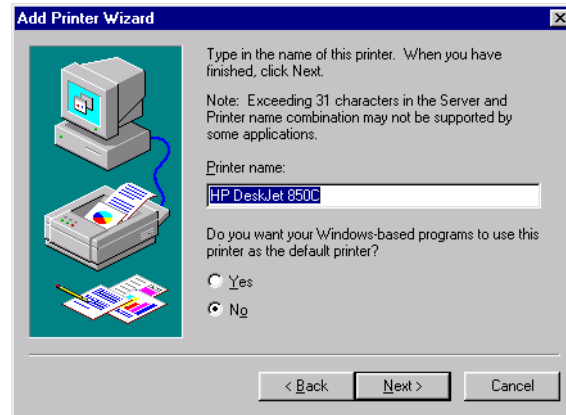

Figure B-12: Naming the Printer
5. In the Printer name field, enter an identifying name for the printer (Figure B-12). To select this printer as the default printer, click Yes.